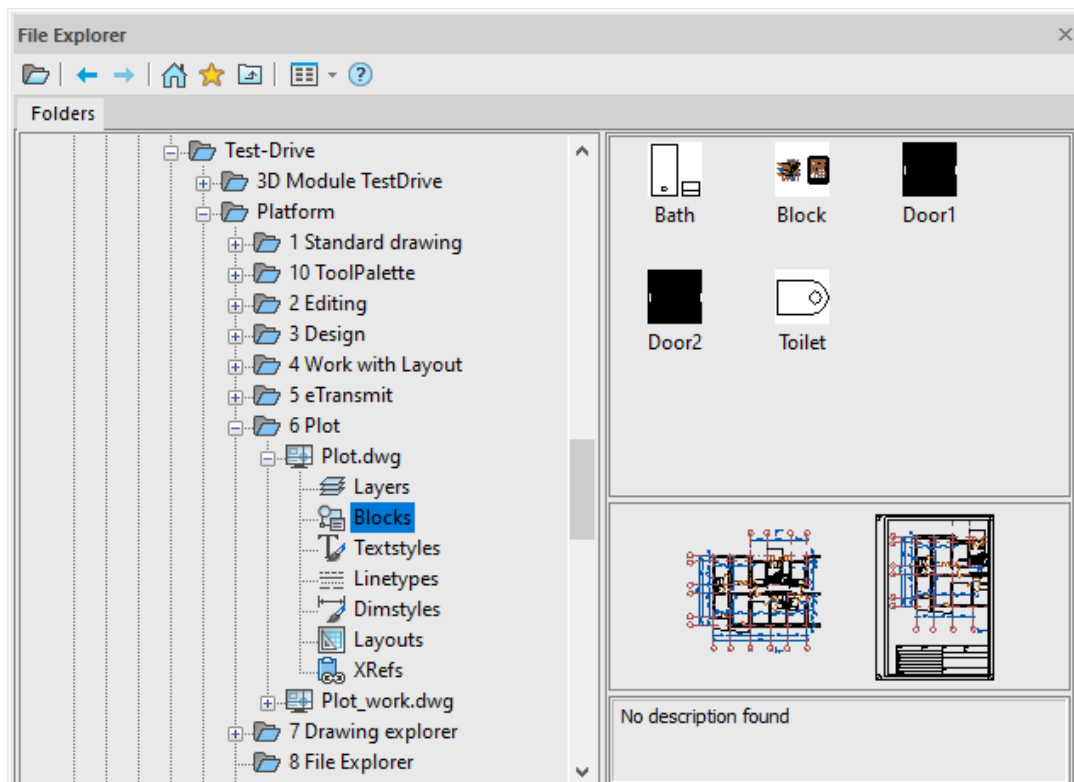

Fig. 58. Explore the Plot.dwg file
3. Find the Plot.dwg drawing file in the TestDrive/Platform/Plot folder. Click on Blocks (fig. 58):